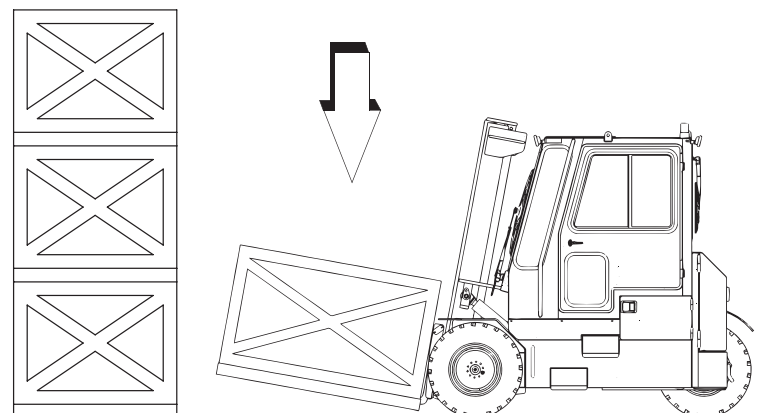

Fig 6
4. Check traffic, release the park brake, place the forklift in reverse and cautiously back the forklift. Watch your direction of travel and the stability of your load. *Fig 6.*